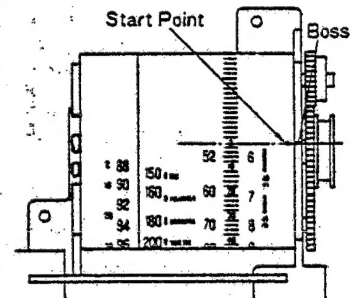

Fig. 11
8. Set start point of the dial with the boss, as shown in fig. 11.